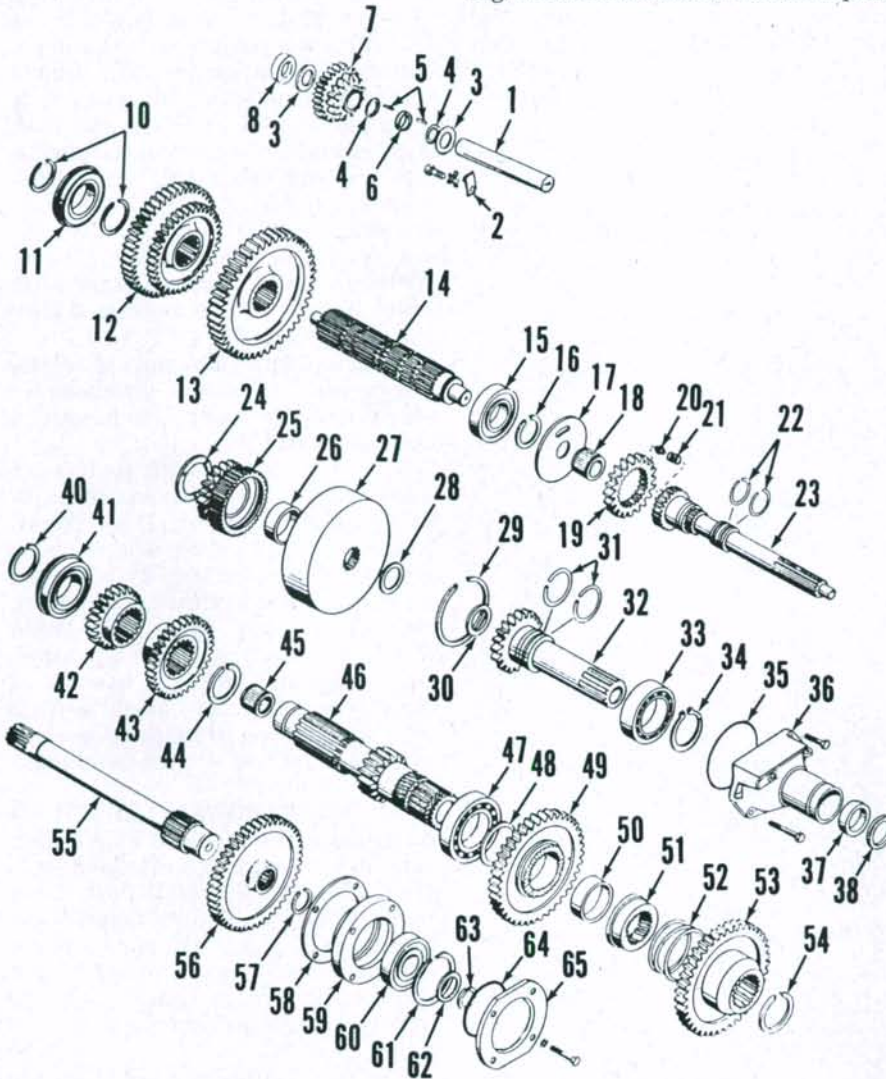
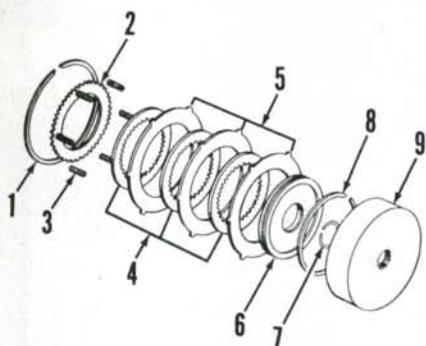
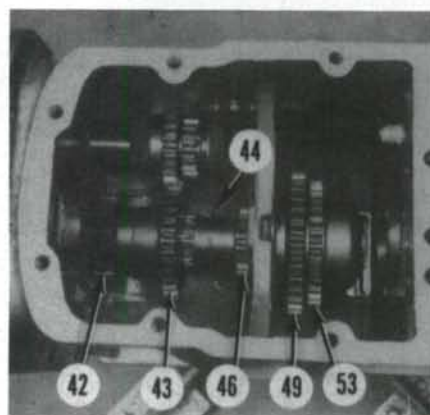

Fig. 203—Exploded view of typical shaft, gears and related components used in Multi-Power transmission.
Fig. 207—Exploded view of Multi-Power clutch assembly.
Fig. 210—View of countershaft and gears partially assembled. Be sure hubs of gears (42 and 43) face each other.
Unbolt and remove shift control valve from retainer housing. Remove large snap ring (29—Fig. 203) from rear of retainer, then bump pto input shaft (32) with bearing rearward from retainer housing. Remove oil seals (30 and 38), needle bearing (37), seal rings (31) and ball bearing (33) if necessary.
**171.** To remove mainshaft (14—Fig. 203) and related gears, first separate tractor between transmission housing and differential housing as outlined in paragraph 156. Remove shifter rails and forks as outlined in paragraph 167 and
**172. REMOVE AND REINSTALL.** To remove transmission input shaft (23—Fig. 203) and Multi-Power clutch unit (27), first remove transmission as outlined in paragraph 157. Remove shifter rails and forks, planetary unit, pto input shaft and retainer and mainshaft as outlined in previous paragraphs. Remove seal rings (22) and thrust washer (24) from front of input shaft. Remove spacer (17) and main drive pinion gear (19) from rear of shaft. Withdraw input shaft rearward while lifting clutch (27) and associated parts out top opening.
**173. MULTI-POWER CLUTCH.** To disassemble the removed clutch unit, place unit on a bench and lift out over-drive pinion (25—Fig. 203). Push clutch retainer plate (2—Fig. 207) inward and remove snap ring (1). Remove retainer plate, friction discs (4), plates (5) and springs (3). Remove clutch piston (6) from housing (9) and remove piston seal rings (7 and 8).
on top of piston with lugs (L) one spline clockwise from bleed holes (B). Install an internally splined clutch disc (D), then the second plate with drive lug (L) one spline clockwise from lug on first plate as shown. Repeat the procedure for remainder of discs and plates. Place the piston return springs (3—Fig. 207) on the driving lugs of first plate installed, then install retainer plate (2) and snap ring (1). Assemble input overdrive pinion into clutch assembly.
174. To remove the pto lower shaft (55—Fig. 203) and drive gear (56), first remove transmission assembly as outlined in paragraph 157. Remove clutch release bearing, fork and shafts and the brake cross shaft if so equipped. Remove mainshaft and gears, pto input shaft and transmission input shaft as outlined in previous paragraph.
Remove cover plate (65—Fig. 203) from front of housing and remove snap ring (63) and thrust washer (62) from front of pto shaft. Thread two 3/8 inch UNC cap screws into tapped holes in retainer housing (59) and tighten evenly to pull retainer with bearing from pto shaft. Remove pto shaft rearward from housing and lift drive gear out top opening of housing.
175. To remove transmission countershaft (46—Fig. 203) and related gears,
Remove snap ring (40) from rear of countershaft, then bump the shaft forward until free from rear bearing. Unseat snap ring (44—Fig. 210) from groove in center of shaft and move it forward onto unsplined section of shaft. Remove snap ring (54—Fig. 203) from front of shaft. Tap shaft rearward and remove overdrive gear (53), spring (52), jaw coupler (51), direct drive gear (49) and thrust washer (48) out top opening of housing. Bump shaft forward out of housing and lift out gears (42 and 43).
Snap ring (44—Fig. 210) should be around shaft in unsplined area and front bearing should be in place on countershaft before installing into housing. Insert countershaft from the front and position the two gears (42 and 43) on rear of shaft with their hubs facing together. Move shaft rearward to allow installation of thrust washer, direct drive gear, coupler, spring and overdrive gear onto front of shaft. Move shaft forward and push second and third gears rearward to allow center snap ring to be seated in its groove. Block front of shaft, then tap rear bearing into housing bore and onto shaft until rear snap ring can
176. The reverse idler shaft (1—Fig. 203) and gear (7) can be removed from transmission housing after removing the transmission mainshaft as outlined in paragraph 171. The idler shaft is retained in housing by a clip (2) and cap screw at rear of housing.